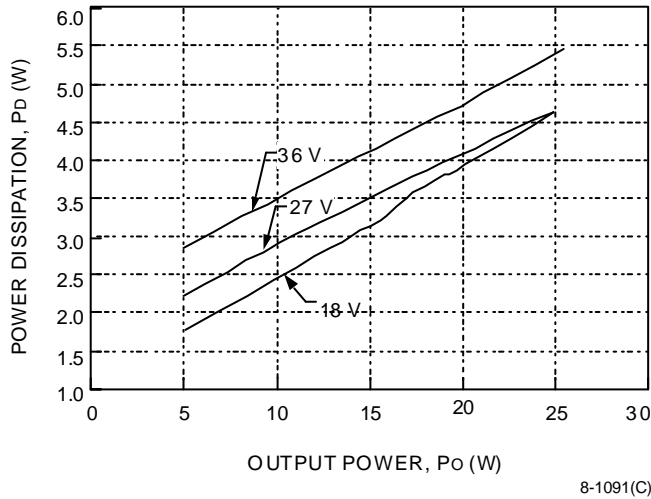
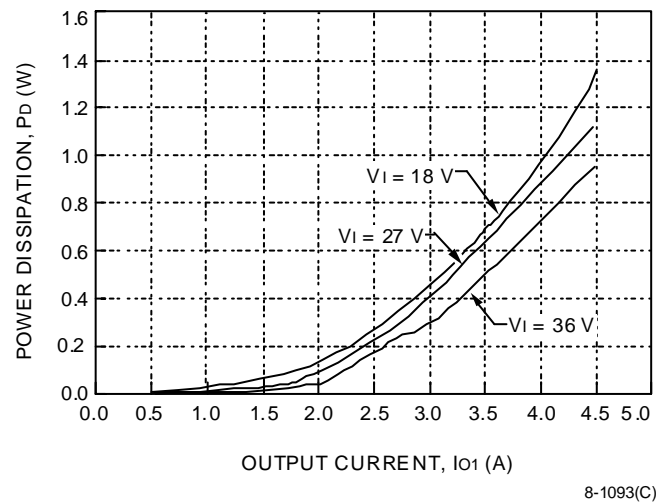
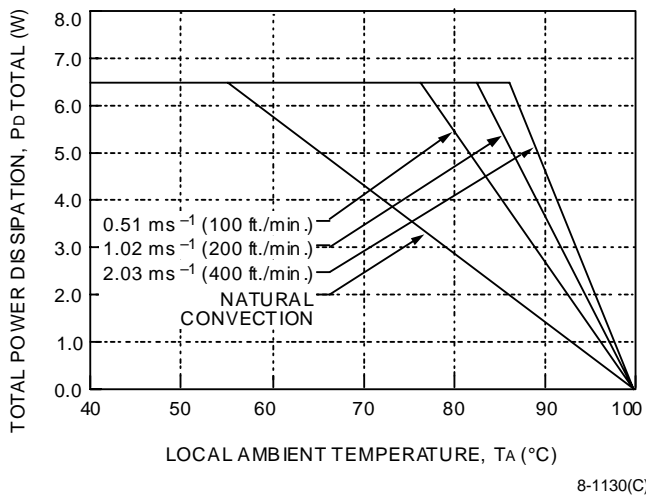

Figure 23. DC025ABK-M Fixed Losses, Pp
Figure 25. DC025ABK-M, DC025ACL-M Losses, Associated with 5 V Output, Ps1
Figure 28. Total Power Dissipation vs. Local Ambient Temperature and Air Velocity
The maximum operating temperature of the DC025 Triple Output-Series Power Modules at a given operating condition can be predicted by combining the power dissipation curves (Figures 23 through 27), the power derating curve (Figure 28), and the thermal resistance curve (Figure 28).
Use Figures 23 through 28 and the steps below to predict the safe operating region for many different operating and environmental conditions.
2. Use P_{ototal} with the appropriate figure (Figure 23 or 25) to determine the fixed losses (P_{P}) associated with operating at P_{ototal} . These losses are independent of which output the load is being drawn from.
3. Use the desired output current (I_{o1}) with Figure 25 to determine P_{S1} , which is the additional power being dissipated due to loading of the main output.
4. Repeat Step 3 for outputs 2 and 3 using the appropriate figure (Figure 23 or 27) to determine P_{S2} and P_{S3} , which is the power dissipated due to loading of the auxiliary outputs.
6. Use the estimated total power dissipated (P_{Dtotal}) along with Figure 28 to determine the maximum ambient temperature allowable for a given air velocity.
$$\begin{aligned} P_{\text{P}} &= 4.5 \text{ W (from Figure 23)} \\ P_{\text{S1}} &= 0.22 \text{ W (from Figure 25)} \\ P_{\text{S2}} &= 0.07 \text{ W (from Figure 23)} \\ P_{\text{S3}} &= 0.07 \text{ W (from Figure 23)} \end{aligned}$$
Figure 28 shows that in natural convection the maximum operating ambient temperature for this module is approximately 66 °C.
The air velocity required to maintain a desired maximum case temperature for a given power dissipation and ambient temperature can be calculated using Figure 28 and the following equation:
This corresponds to an airflow greater than 0.38 ms⁻¹ (75 fpm) in Figure 28.